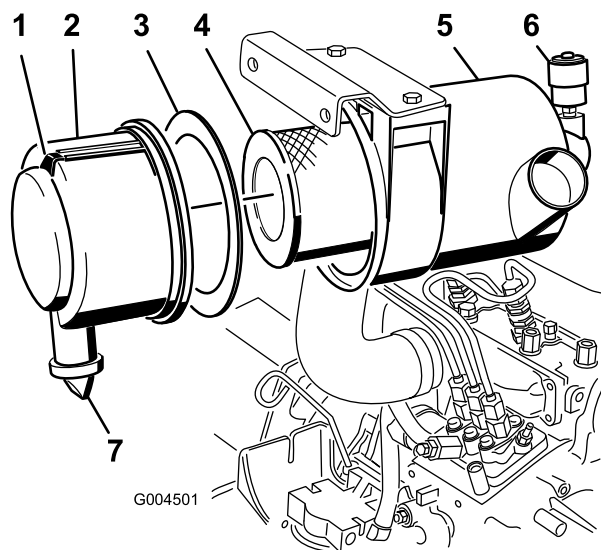

Figure 45
- Service the air cleaner filter when the air cleaner indicator (Figure 45) shows red or every 400 hours (more frequently in extremely dusty or dirty conditions). Do not over service the air filter.
1. Pull the latch outward and rotate the air cleaner cover counter-clockwise (Figure 45).
2. Remove the cover from the air cleaner body (Figure 45).
4. Remove and replace the primary filter (Figure 45).
6. Ensure that the foam gasket is in place in the cover and that it is not torn or damaged (Figure 45). If it is damaged, replace it.
- A. Remove the rubber outlet valve from the cover (Figure 45).
10. Reset the indicator (Figure 45) if showing red.